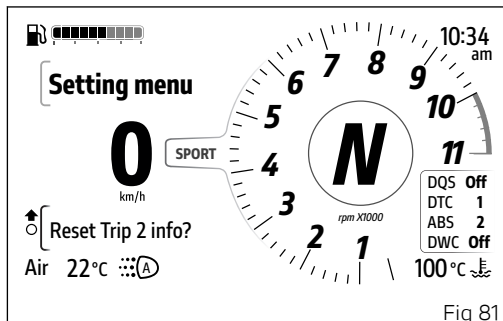

Fig 81
The "Trip 2" information, when selected, can be reset by pressing the ENTER button (3): "Reset Trip 2 info?" will be displayed (Fig 81).